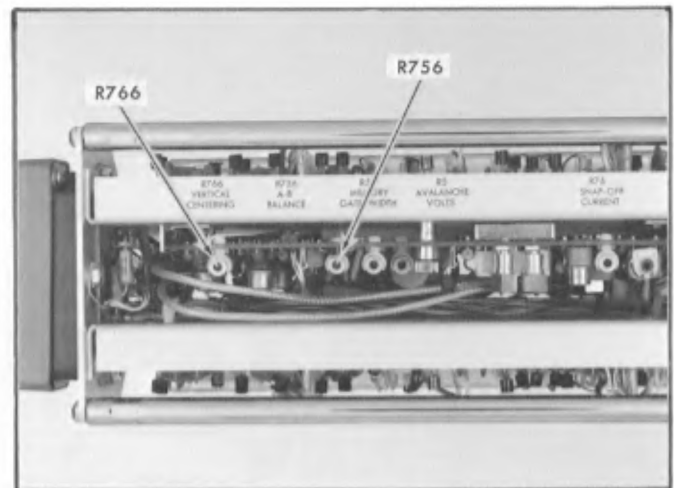

Fig. 8-24. A-B Bal control location, Step 18. Vertical Centering control location, Step 20.
b. Adjust the A-B Bal control, R756 shown in Fig. 8-24, for a display exactly 6 centimeters peak to peak on the indicator oscilloscope CRT.
d. Check that the two traces appear near each other, but that they do not blend into one. Adjust the Vertical Centering control R766 (shown in Fig. 8-24) until the two traces straddle the graticule centerline.